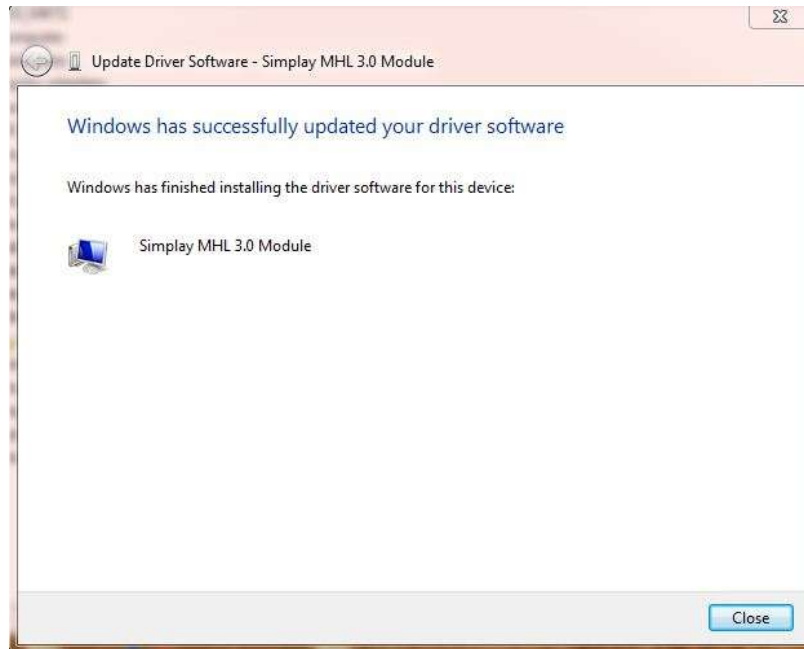

Figure 2.6. Driver Installed Successfully
6. After the driver is installed, you can see the following dialog (Figure 2.6).